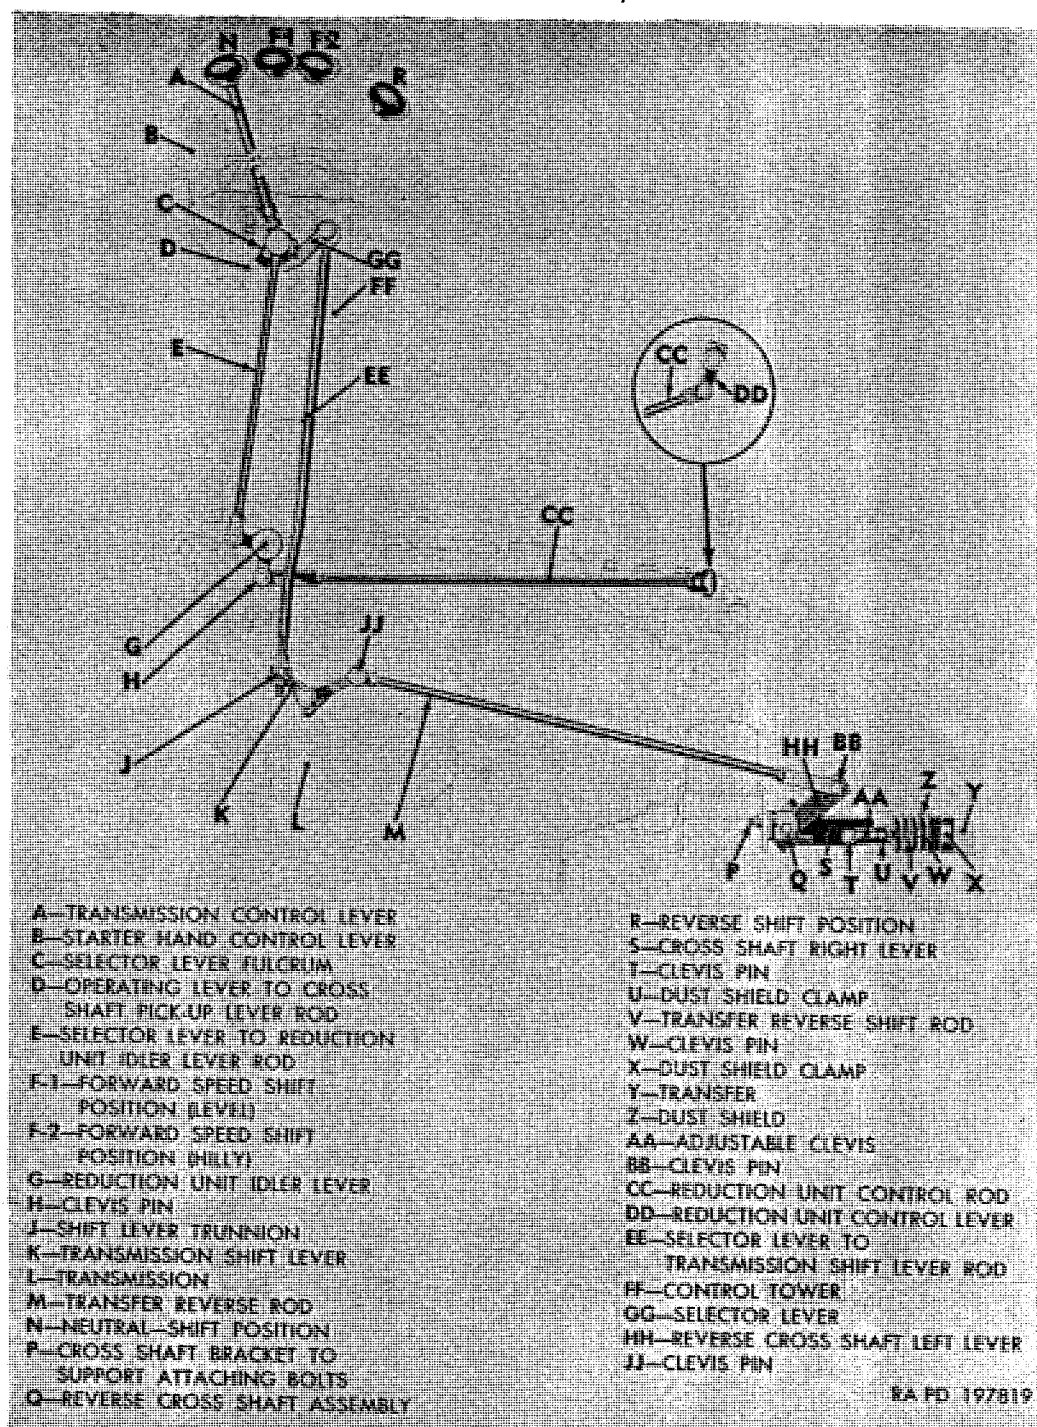
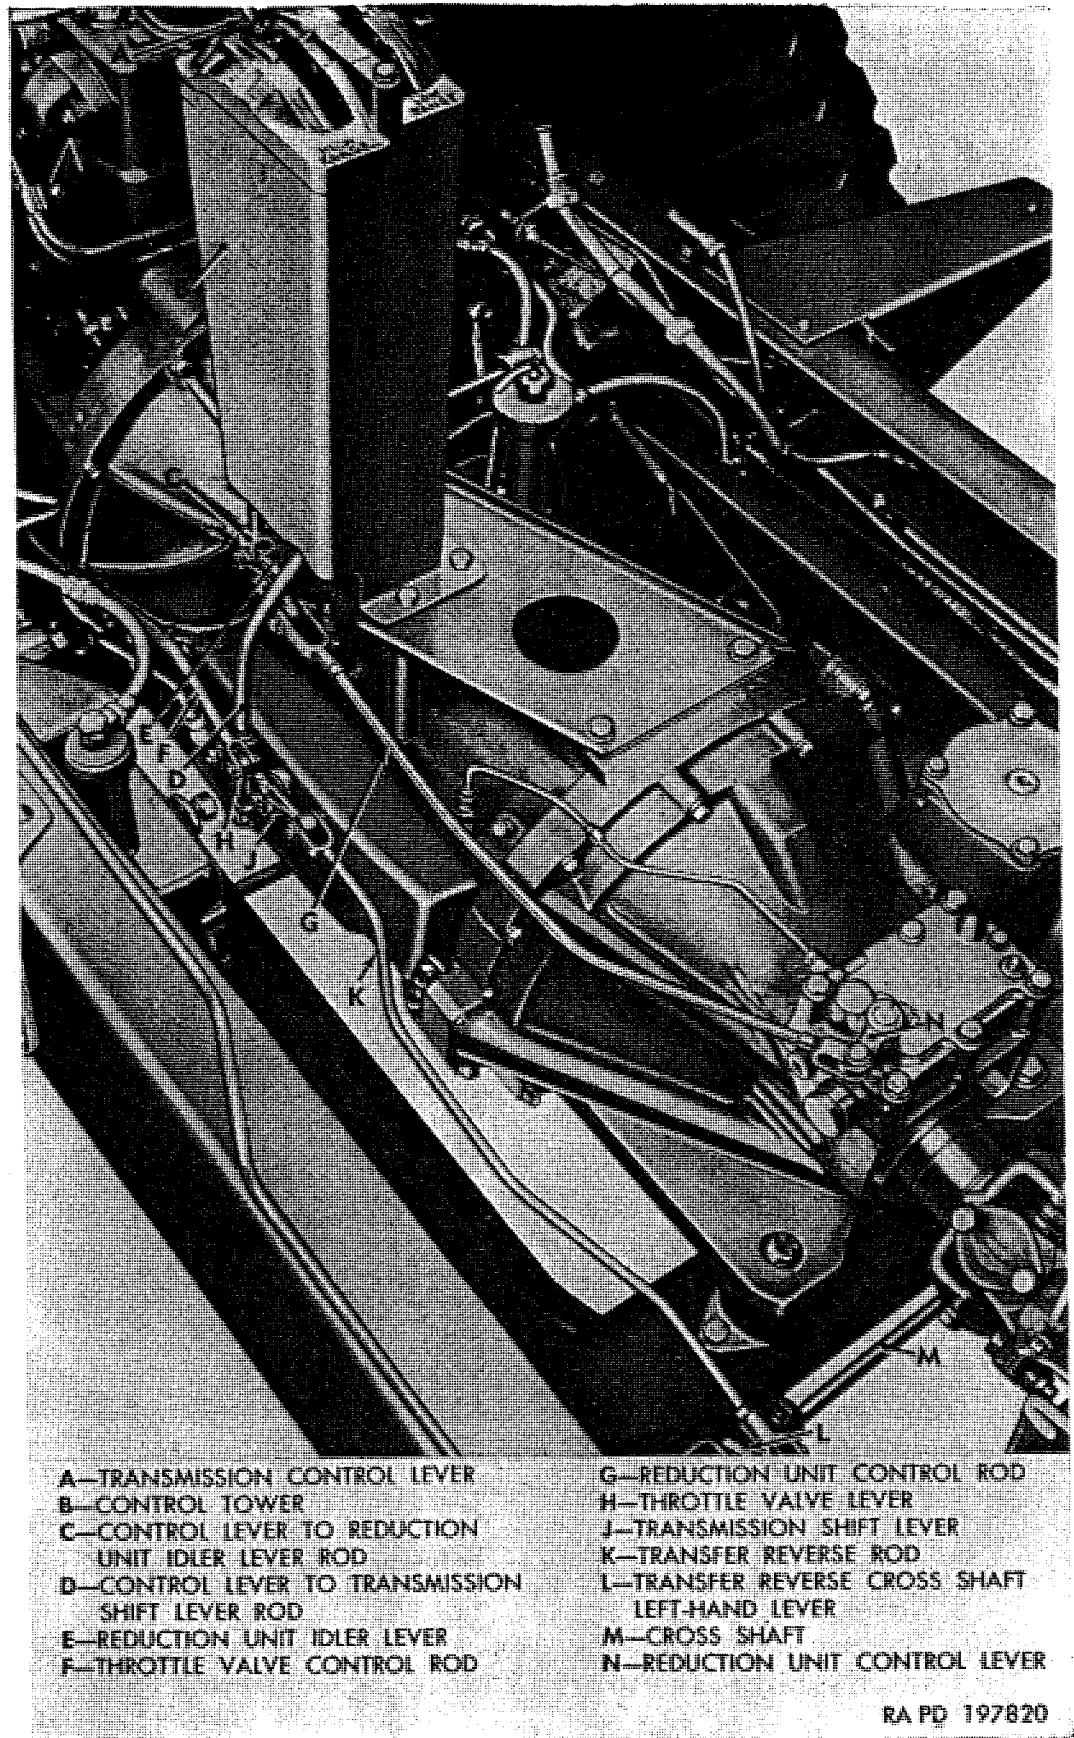

Figure 197. Transmission and transfer linkage arrangement.
Figure 198. Transmission shift linkage installed.
Note. The key letters noted in parentheses are in figure 197, except where otherwise indicated. Refer also to figure 198 for view of manual control linkage installed.
- (1) Manual shift control linkage is shown in figure 197. Transmission throttle linkage is omitted from figure 197 for purpose of clarity. Manual shift linkage performs two functions: selects transmission range positions and shifts transfer front axle clutches for forward and reverse operation. Both transmission and transfer incorporate internal detents to locate control positions. In addition, control tower also has detents for control lever; however, detents in transmission govern adjustment of linkage. Always make adjustments in sequence listed.
- (2) Press down on transmission control lever (A) and move lever into F-2, LOW RANGE position. Remove nut and washer from shift lever trunnion (J); then disconnect trunnion from transmission shift lever (K).
- (3) Disconnect transfer reverse rod (M) from transmission shift lever (K) by removing cotter pin and clevis pin (JJ).
- (4) Disconnect reduction unit control rod (CC) from reduction unit idler lever (G) by removing cotter pin and clevis pin (H).
- (5) Make sure transmission control lever (A) is in F-2, LOW RANGE position. Move transmission shift lever (K) clockwise as far as it will go into first detent position; then move shift lever counterclockwise to second detent position felt, which is third detent position from the rear.
- (6) Insert pin on shift lever trunnion (J) into transmission shift lever (K), adjusting trunnion nuts as necessary to provide free pin. Make sure trunnion pin does not bind when moving transmission control lever (A) into all other positions; then return control lever to F-2, LOW RANGE position. Install trunnion, $\frac{5}{16}$ -24 safety nut, and 0.083-inch thick lockwasher.
- (7) Move transmission control lever (A) into N, LOW RANGE position and reduction unit control lever (DD) into reduction (forward) position. Connect reduction unit control rod (CC) to reduction unit idler lever (G) with clevis pin (H) and cotter pin, adjusting clevis as necessary to provide free pin. Clevis pin (H) should also be free with transmission control lever (A) in N, HIGH RANGE position.
- (11) With cotter pin and clevis pin (BB) attaching transfer reverse rod (M) to reverse cross shaft left lever (HH) removed, move transmission control lever (A) into F-1 HIGH RANGE position and push transfer reverse cross shaft left lever (HH) against pick-up lever on cross shaft assembly (Q). Adjust transfer reverse rod yoke to permit free installation of clevis pin (BB). Secure clevis pin with cotter pin. Tighten locknut against yoke.
- (12) Recheck, making sure all clevis pins are secured with cotter pins.
d. Replacement of Rods and Levers. Linkage rods are connected at each end by clevis pins as shown in figures 197 and 198. Linkage rods are easily removed by removing cotter pins and clevis pins. Levers are removed after loosening clamp screws. Before installing adjustable yoke or clevis pins, make sure parts are not worn excessively. Worn parts will not permit accurate linkage adjustment. Transmission throttle valve control lever and transmission shift lever are attached to control valve shaft by means of clamp screws. Serrations on levers and shafts position levers in relation to shafts. Do not force levers on shafts in wrong position.